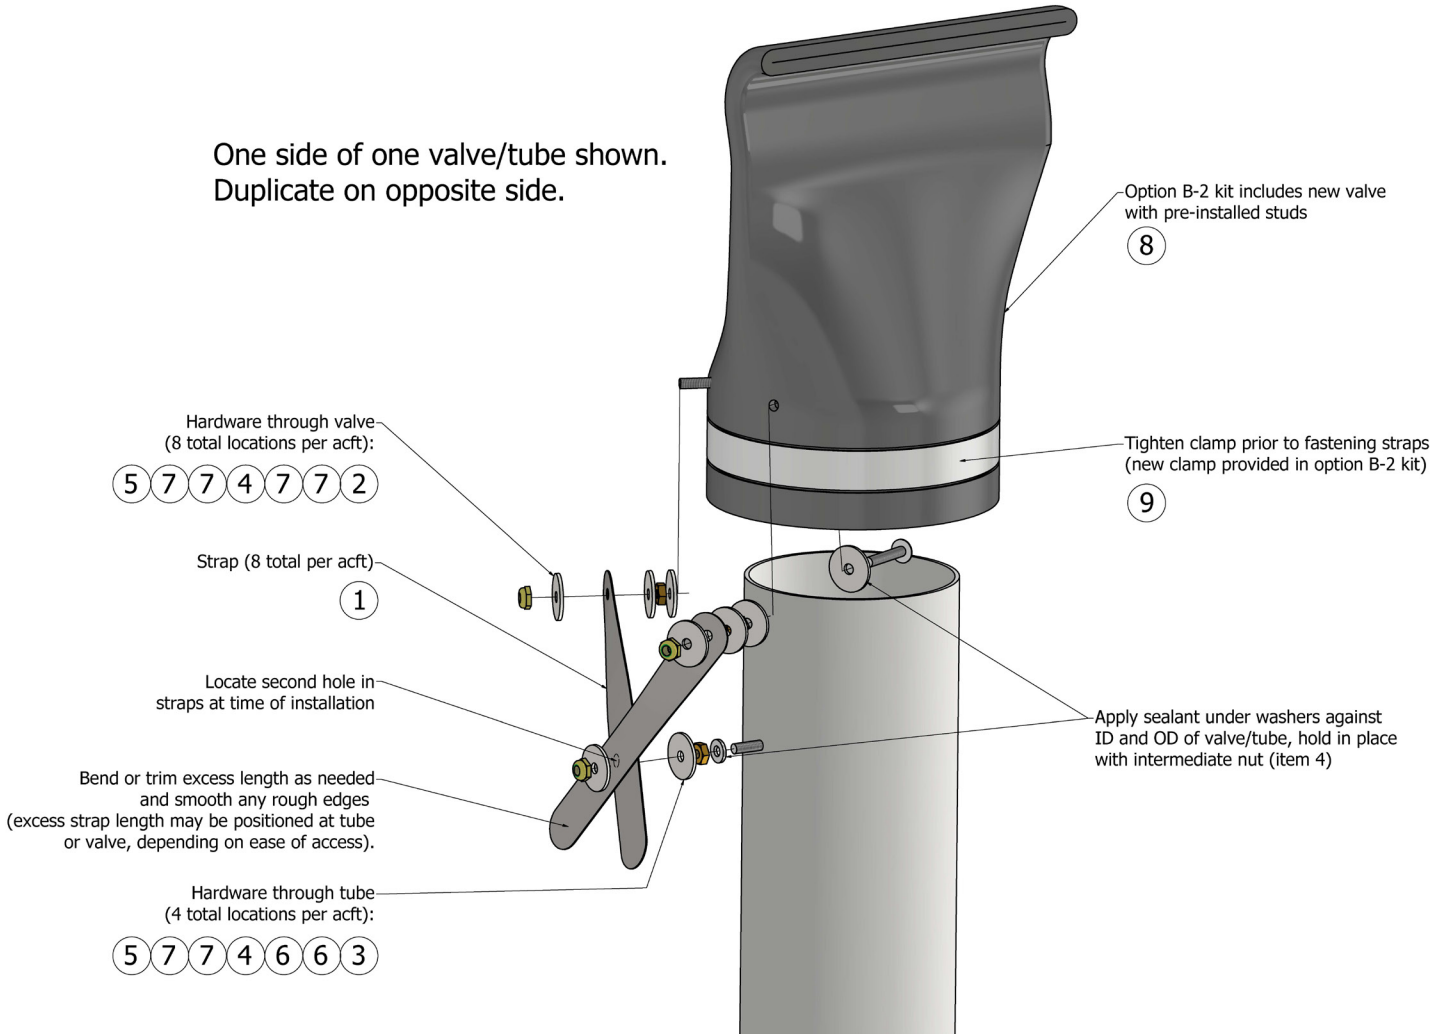

Figure 3
- Create "studs" as needed at these locations using the hardware identified in Figure 3 and Tables 2 or 3. Except for the pre-assembled studs in replacement valve assembly 1012077 (Option B-2), any existing studs will be made from different hardware which will need to be replaced. Add Pro-Seal to underside of the washers that contact the ID and OD surfaces of the valves and tubes. Hold in place with intermediate nut (item 4). The final two washers and nyloc nut for each stud will be installed during final placement of the straps (step 8).
- Install straps and remaining hardware. Refer to Figure 3 and Tables 2 or 3. Excess strap length may be bent out of the way or cut. Smooth any sharp edges.